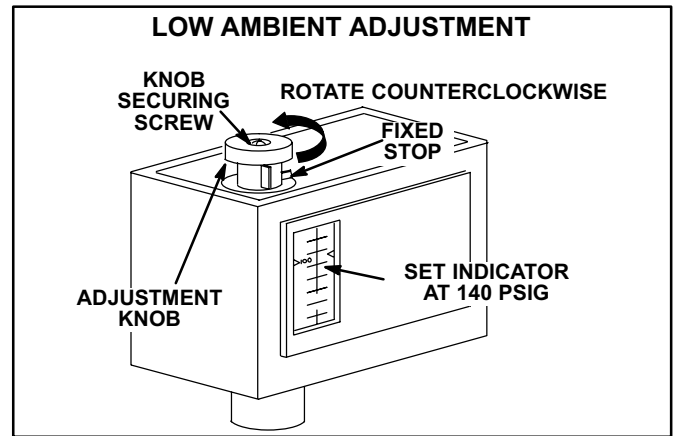

FIGURE 26
- 1 - Loosen knob securing screw to allow knob stop to pass over fixed stop on control (see figure 26).